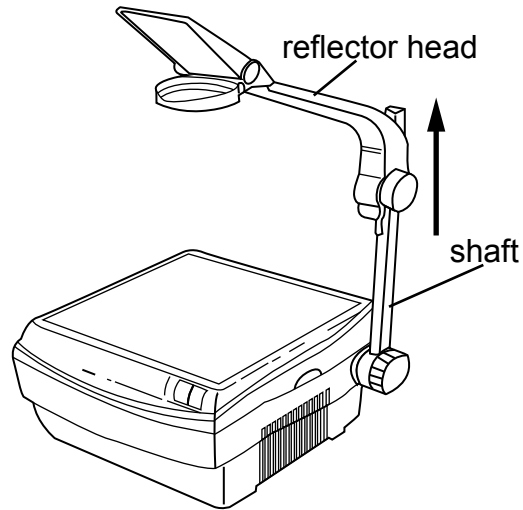

Fig. 6
- 6 Fig. 6 shows an old model of an overhead projector.